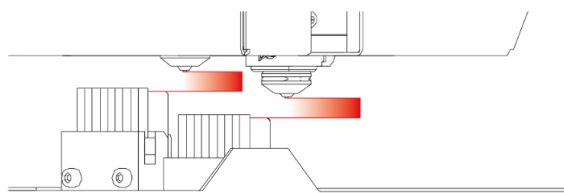

Fig. 12 Incorrectly adjusted cleaning station slats relative to the module nozzles – too long distance
1. The distance between the nozzle and the cleaning station slat is too long and the slat fails to touch the nozzle at all (Fig. 12).
- in the case shown in Fig. 12, the cleaning station should be raised,